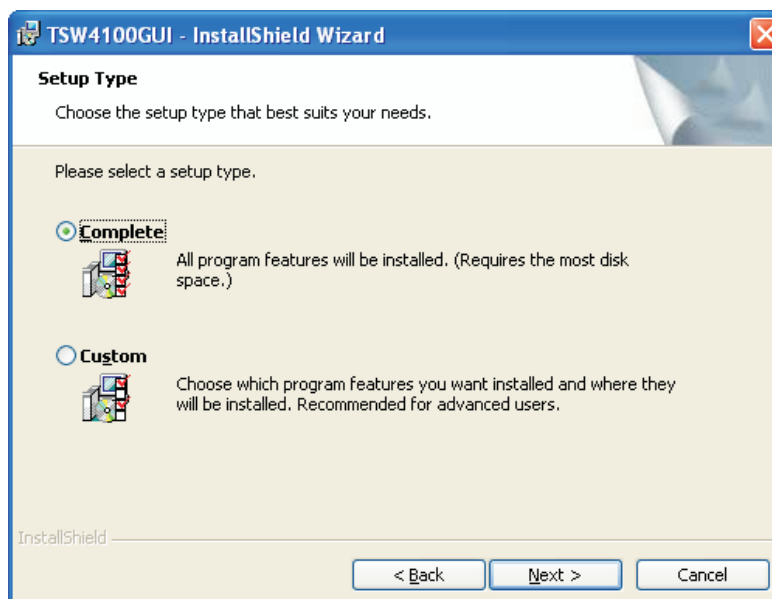

Figure 11. Setup Type
4. On the Setup Type (Figure 11) display, select the *Complete* Setup Type option and click *Next*.